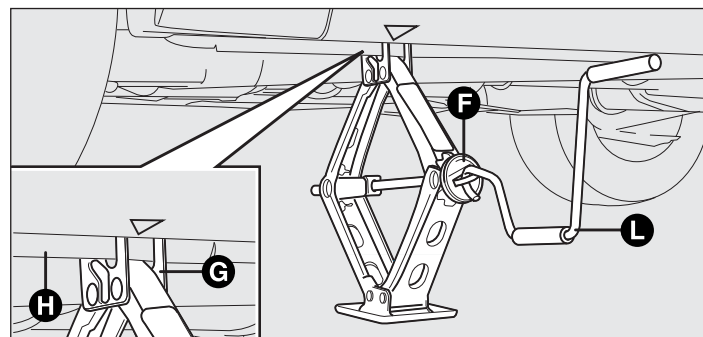

fig. 153
- operate device F-fig. 153 to extend the jack until the top of the jack G-fig. 153 fits correctly into jacking point H-fig. 153;
- fit the handle L-fig. 153 to operate the jack and lift the car until the wheel is several centimetres off the ground;
- ❑ turn the jack handle L-fig. 153 to lower the car, and remove the jack;